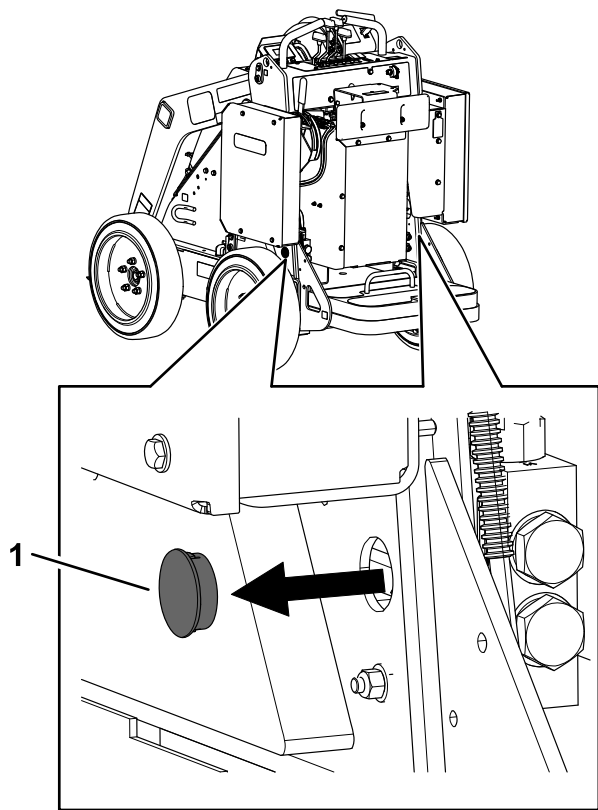

Figure 15
2. Remove the plug covering each tow valve (Figure 15).